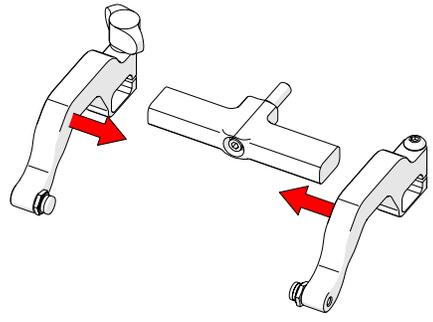

Fig. 57 - Place arms back onto yoke
6. Place the probe holder arms on the yoke and tighten the arm clamp screw and probe holder adjustment knob (Fig. 57).